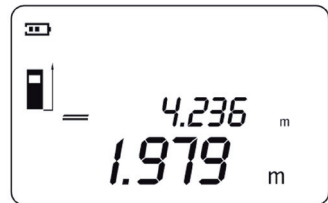

Fig. 7
8. The second length is displayed on the bottom line of the screen in large digits and the laser beam switches off (fig. 7).